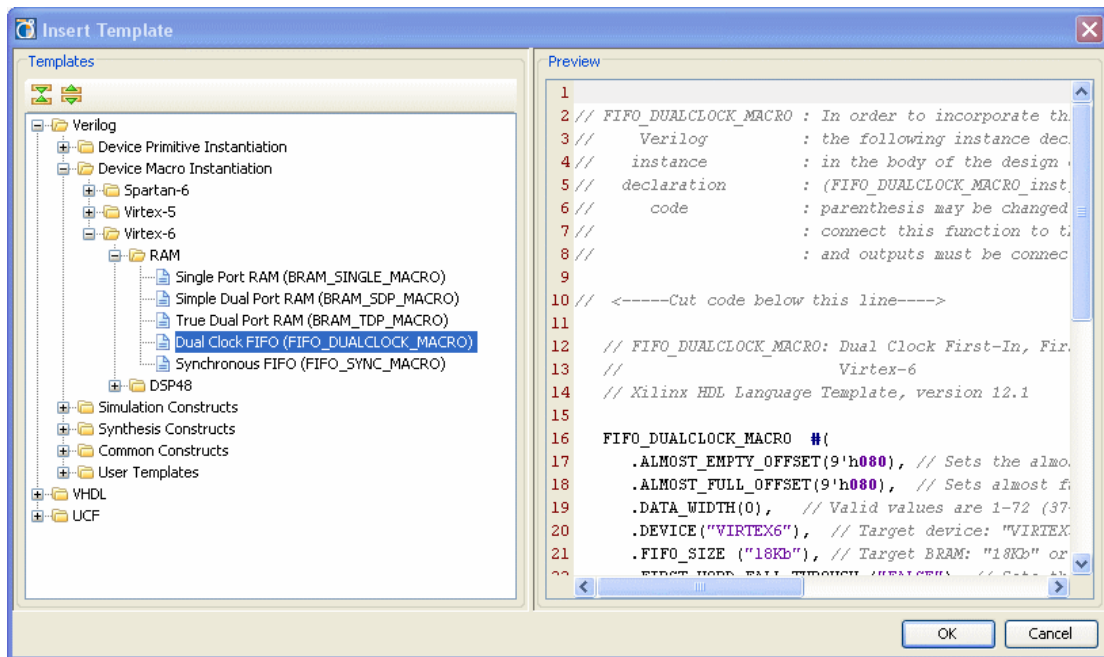

Figure 13: Insert Template Screen
- 2-5-7. Right-click and select the **Insert Template** popup command in the Text Editor to open the Insert Template dialog box (Figure 13).